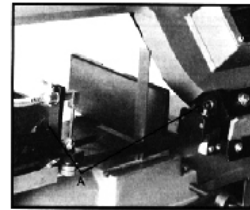

Fig. 4
2. Place machinist's square on table next to blade as pictured in Fig. 4.
5. Tighten bolts (A).